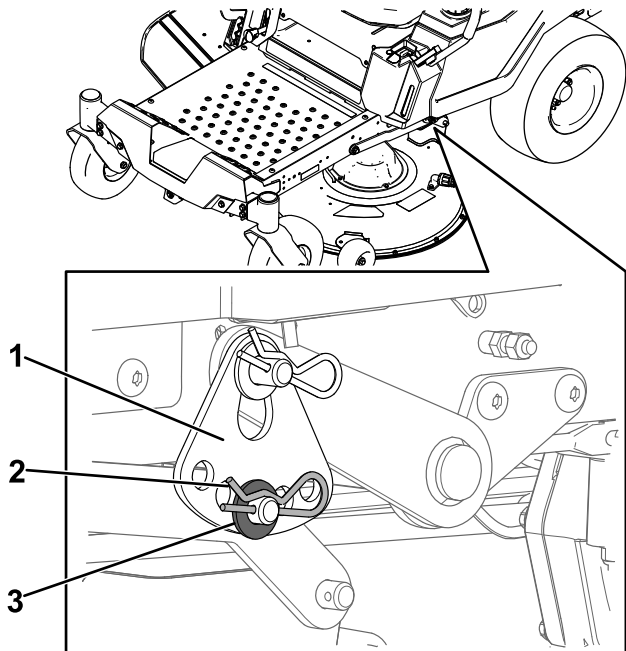

Figure 65
6. Remove the hairpin cotter and washer from the lower lift-arm pin (Figure 65).